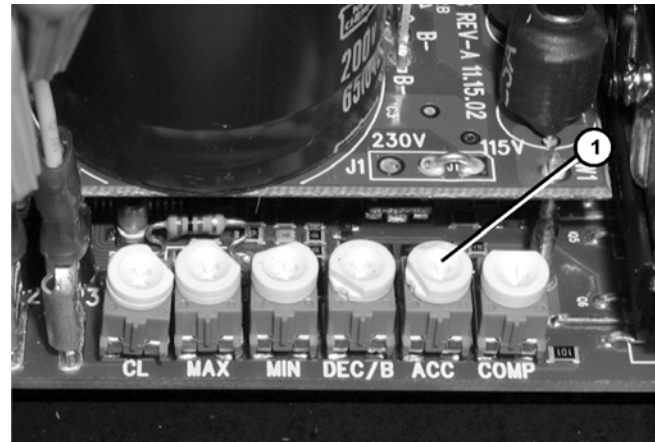

Figure 10
1. Turn counter clockwise (**Figure 10, item 1**) to reduce the time it takes to ramp up to speed. For more details please refer to Bodine's Instructions for Installation and Operation Manual section Adjust Trim Pots.